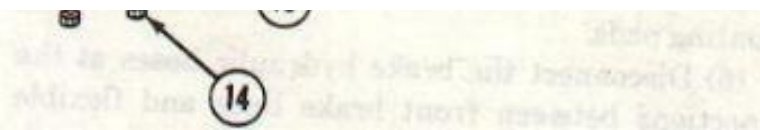
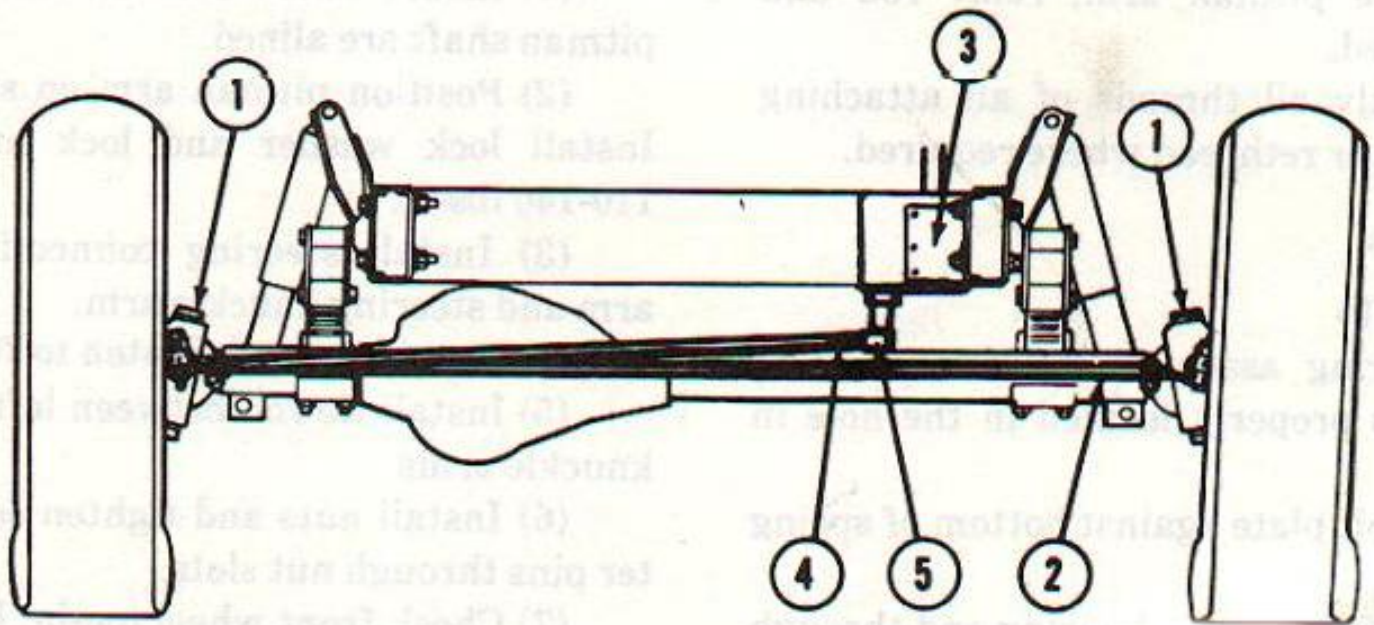

Figure 2-70. Front suspension Components.
FIGURE 2-71. Steering Linkage
a. Shock Absorbers. (Fig 2-70)
- (1) Remove nut and flat washer from shock absorber frame bracket pin.
(2) Remove nut and flat washer from shock absorber axle housing bracket pins.
b. Shock Absorber Mounting Pins. (Fig 2-70)
(1) Remove shock absorber as described in (a) above.
(2) Remove nut, which secures shock absorber mounting pin to axle housing bracket.
(3) Remove shock absorber mounting pins.
c. Springs. (Fig 2-70)
(1) Place transmission in gear, set hand brake and place wheel chocks at front and rear of rear wheels.
(2) Raise front of vehicle and place jack stands under each frame side rail under cab area.
(6) Remove nut (6) from spring front hanger bolt (25). Remove bolt from hanger and spring bushing with a drift.
(7) Remove nut (17) from rear shackle bolt (15). Remove bolt from shackle and spring bushing with a drift.
(8) Remove spring from vehicle.
(9) Remove bolts (27), nuts (24), lock washers (23) and remove spring bumper (22) from frame.
d. Spring Shackle. (Fig. 2-70) The front spring shackles can be removed without removing the springs by the following procedure:
(1) Place jack under frame side rail in order to relieve the load on spring.
(2) Remove the shackle bolt by removing locknut.
(3) Remove the locknut and flat washer from the spring hanger.
(4) Swing the spring shackle up so it is clear of the spring. Pull the spring shackle off the spring hanger.
e. Steering Linkage. (Fig 2-71)
(1) Remove two cotter pins and nuts connecting tie rod to left and right steering knuckle arms.
(2) Disconnect tie rod from steering knuckles.
(3) Remove two cotter pins and nuts which secure steering connecting rod to pitman arm and left steering knuckle.
(4) Remove steering connecting rod.
(5) Remove nut, lock washer and bolt connecting pitman arm to steering gear.
(6) Mark steering gear shaft and steering arm to insure correct alignment during reassembly.
a. Springs. (Fig 2-70)
- (1) Position spring assembly so that head of spring center bolt is properly located in the hole in axle spring seat.
- (2) Position U-bolt plate against bottom of spring assembly.
- (3) Install U-bolts over axle housing and through holes in spring plate.